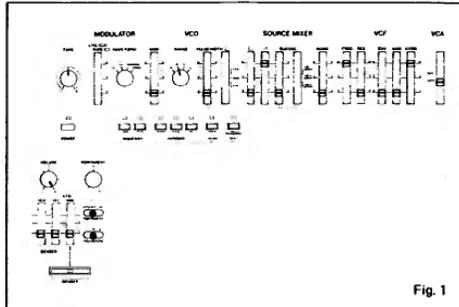

Fig. 1
- (D) Repeat the above procedures (A) through (C) until all the voltage readings are within  $\pm 1mV$  of the specifications.**
- Set the panel controls as shown in Fig. 1.